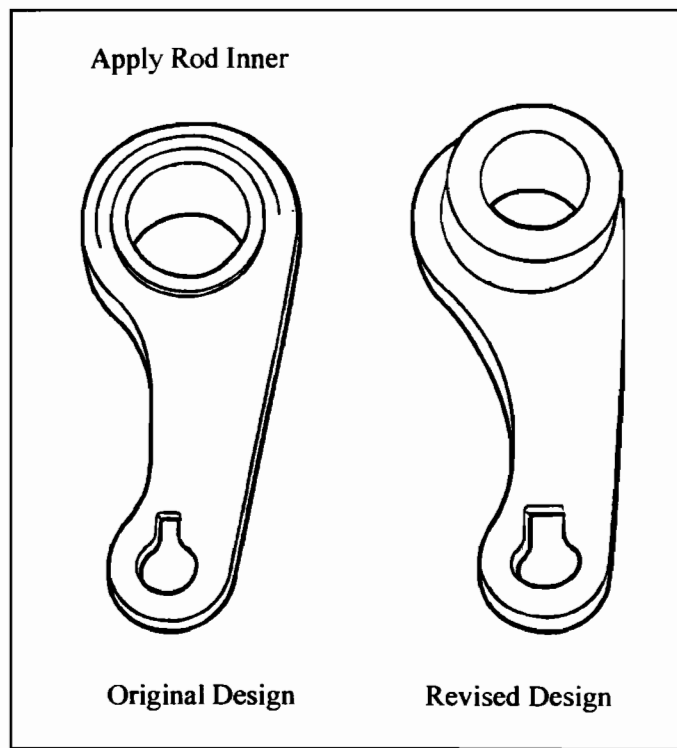

Figure 7
- Figure 7-Apply Rod Inner Lever